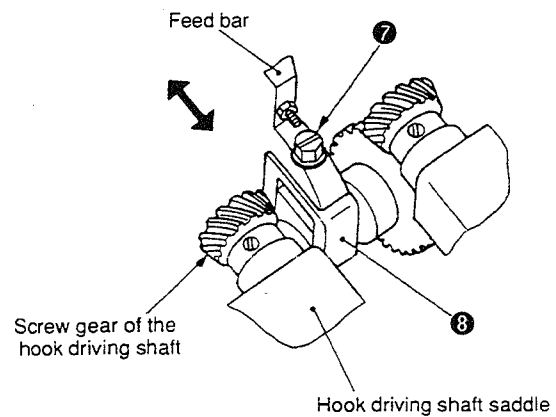

Fig. 12
2. Turn the handwheel to bring feed dog ① to the position where it rises the most above throat plate ②.
3. Loosen screw ⑦ in Fig. 12, and move feed bar lifting fork ⑧ up or down to adjust so that feed dog ① rises 0.9 to 1.1 mm above the top surface of throat plate ②. Then, tighten screw ⑦.